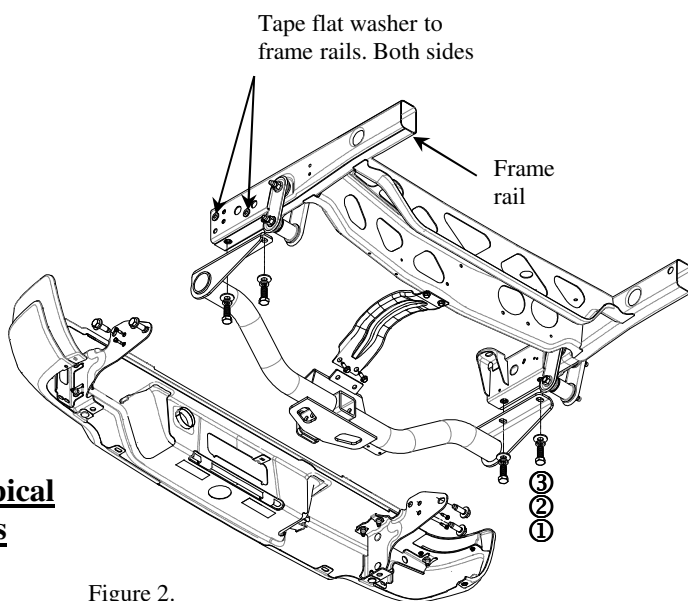

Figure 2.
1. Remove vehicle impact and bumper structure (8 bolts). Remove (2) bolts at spare tire cradle (keep to re-install). Disconnect electrical plugs.
3. Raise hitch into position and install provided fasteners as shown figure 2